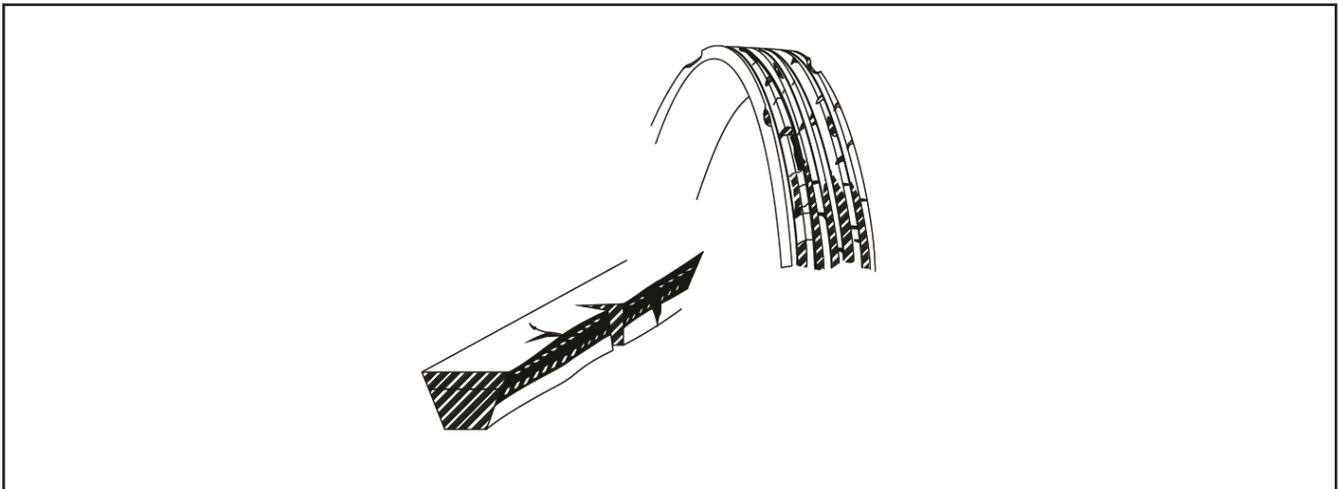

Figure 30 Drive Belt Damage
3. Inspect the drive belt. Look for signs of cracking, separation, cuts, or other damage. See Figure 30.